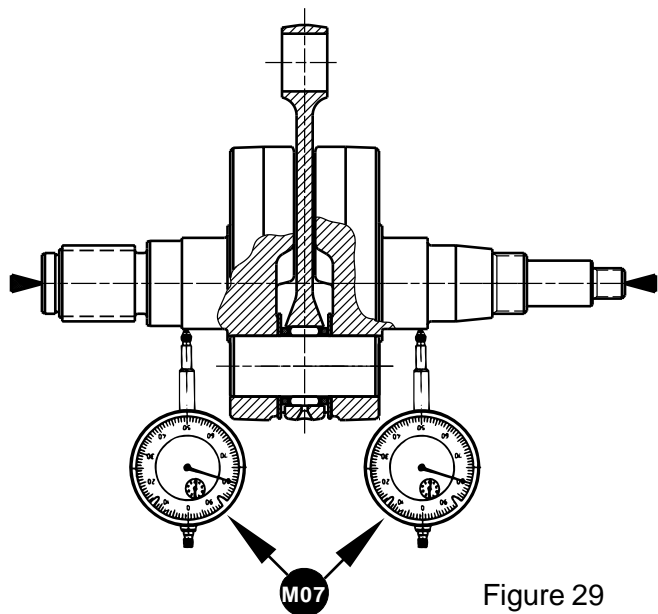

Figure 29
- ✓ verify alignment of the crankshaft (see fig. 29)